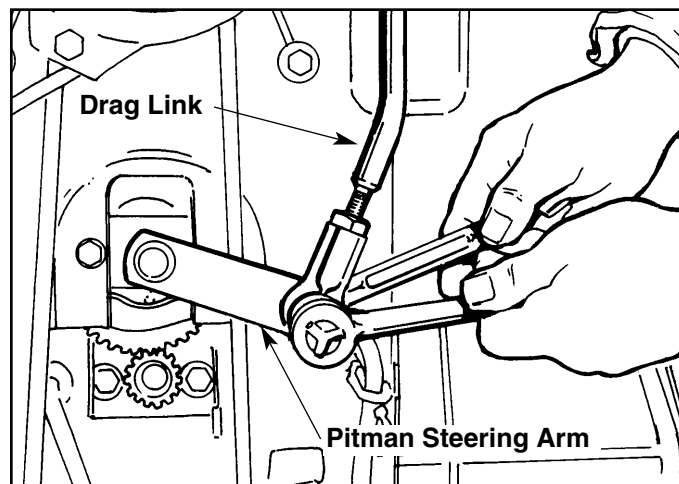

Figure A-24. Disconnect Drag Link Ball Joint
2. Disassemble the drag link from the pitman arm by removing the capscrew, washers, spacer, and flanged hex lock nut (Figure A-24).